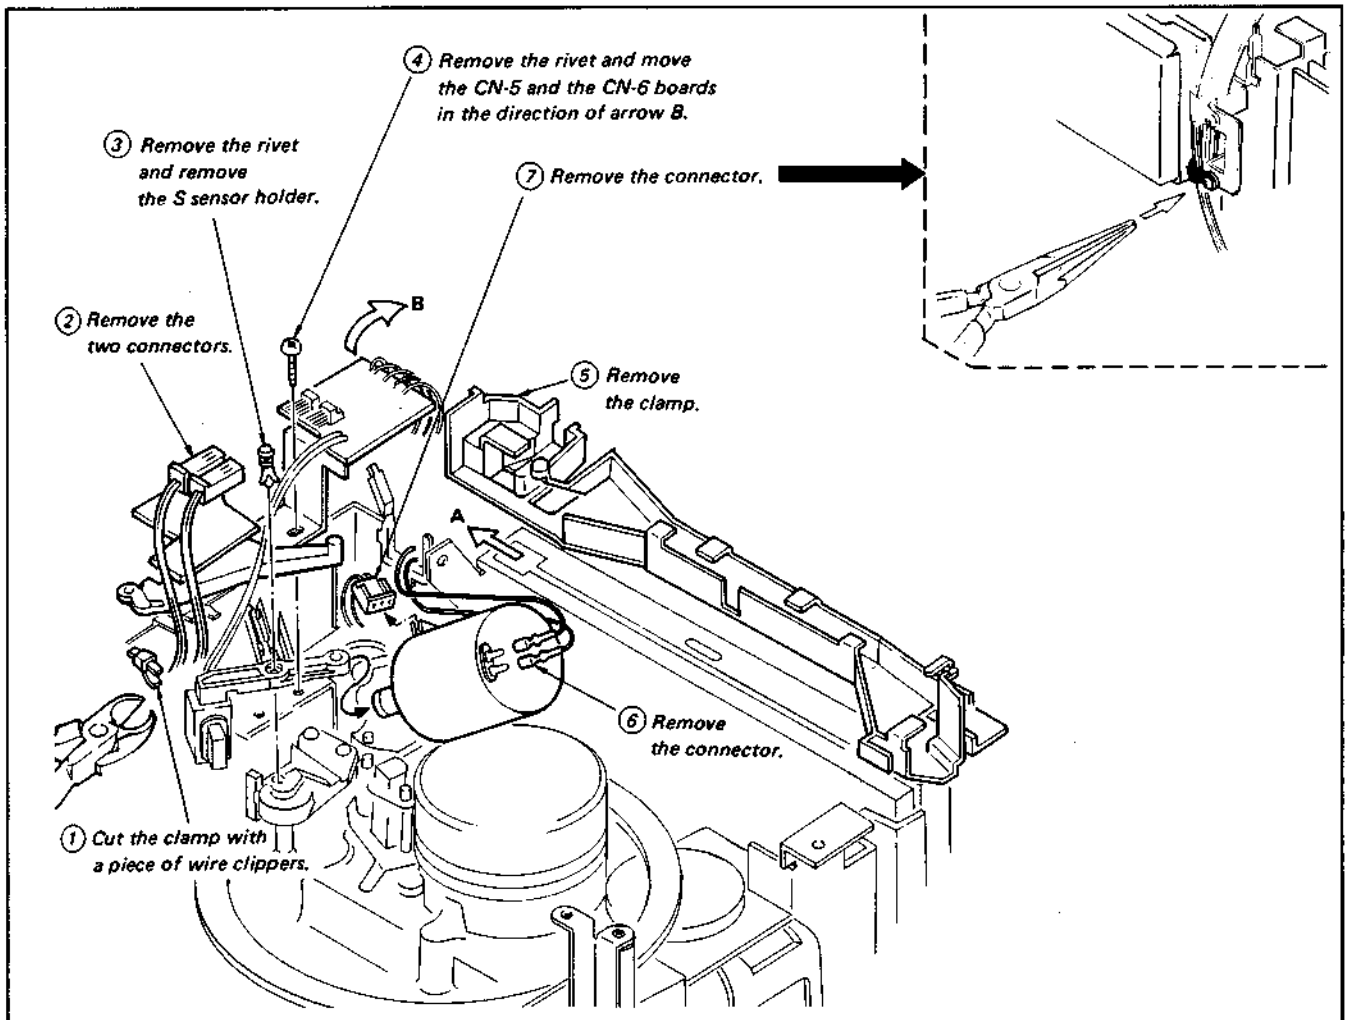

Fig. 3-8. Replacement of DC motor (2)
3. Take out the DC motor, following Steps ① to ⑦ shown in Fig. 3-8.